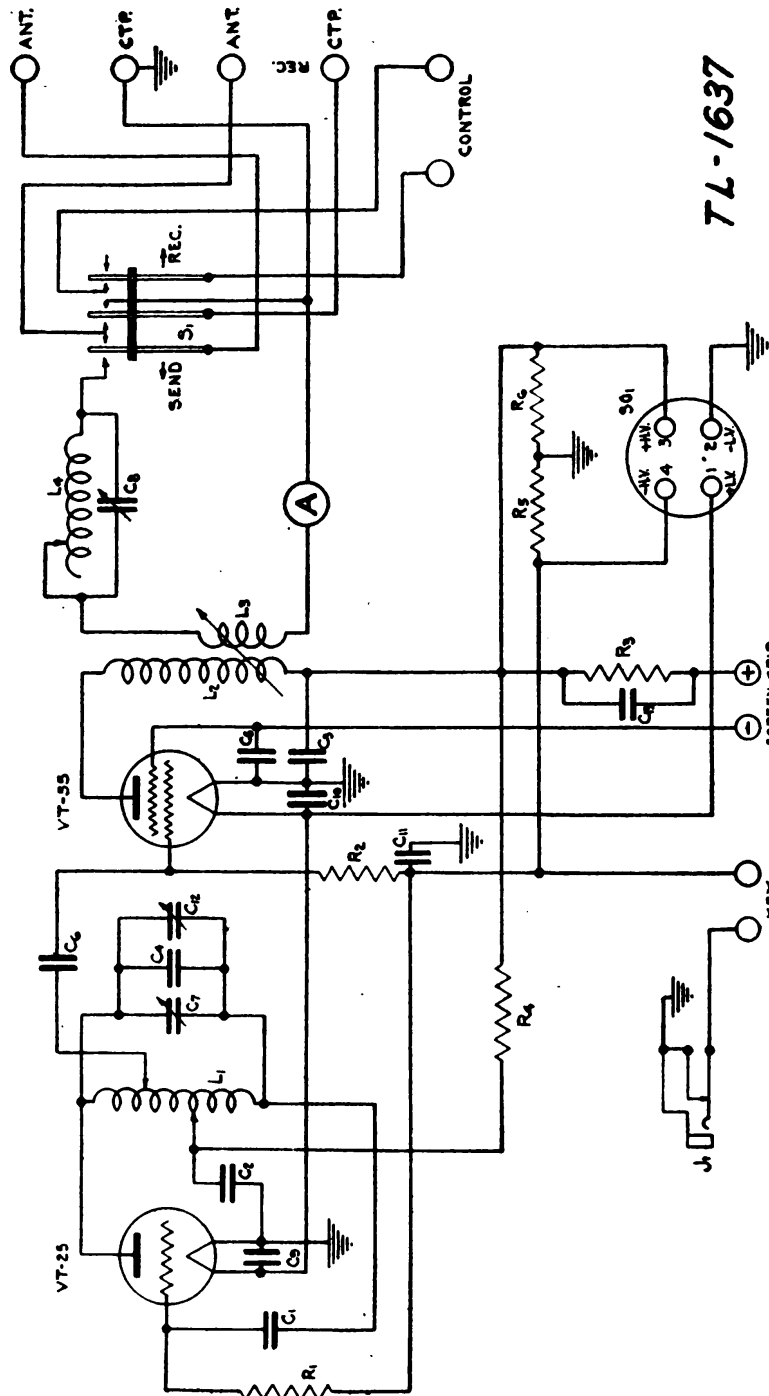
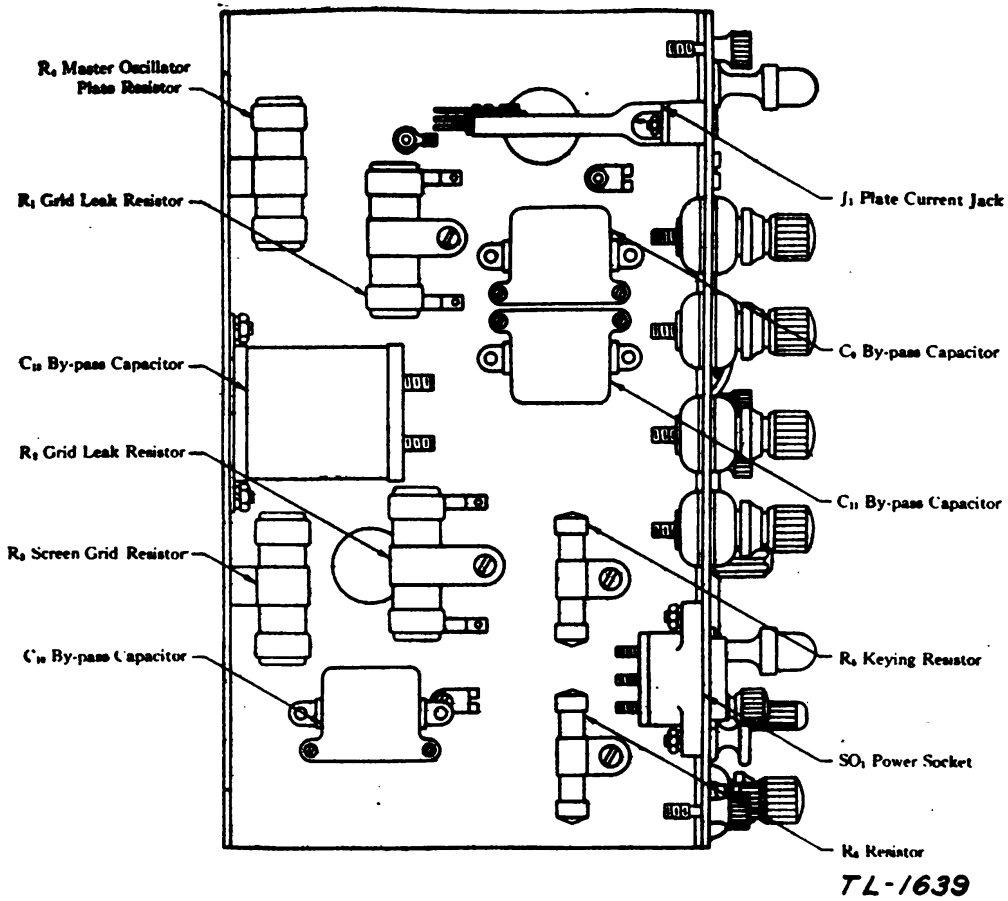

FIGURE 15.—Radio transmitter BC-187, circuit diagram. (Circuit elements.)
FIGURE 17.—Radio transmitters BC-187 and BC-187-A, bottom view.
NOTE.—The following detailed analyses are given with reference to the schematic diagrams and circuit element drawings shown in figures 15 to 30, inclusive. Descriptions of parts represented by code figures are given in paragraphs 26, 27, and 28.
14. Radio transmitter BC-187 (figs. 15, 16, and 17) or BC-187-A (figs. 17, 18, and 19).—These units are interchangeable, and differ only in minor respects (see par. 26).